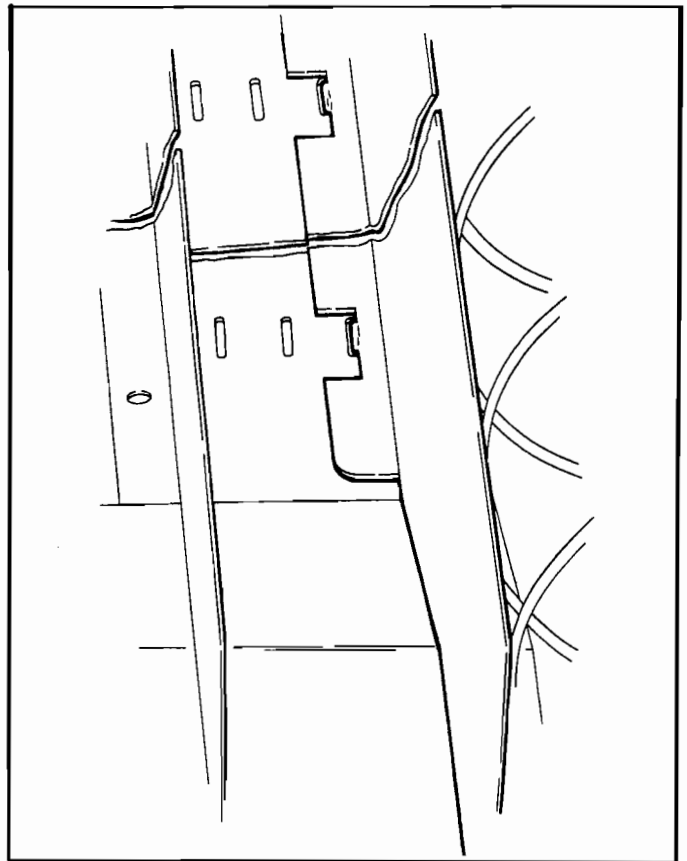

Figure 4. ALIGNMENT OF MOVEABLE PRODUCT SPACERS.
6. **PRODUCT SPACERS-5 SELECTION SHELF:** A product spacer (page 22, item 9) is used to reduce the width of the product area and should be used on any 5-selection snack shelf where the product width is $4\frac{1}{2}$ " or less. Spacers should fit within $\frac{1}{8}$ " of the product but *should not* fit tight against the product. These spacers are packed and shipped in the bottom of the door. There are three positions in each snack space where these spacers can be placed. To install the spacer, align the lock ears (on the lower edge of the spacer) with one of the three sets of slots (one front and one rear). (See Figure 4.) Push the spacer to the rear to allow the ears to enter the slots, then allow the spacer to move forward. Be sure the ears are in the same set of slots, front and rear. (See Figure 4.) Continue loading all spirals adjust with spacers where needed in the top shelf. Return the top shelf to the vend position and following this procedure load the remainder of the large spiral shelves.